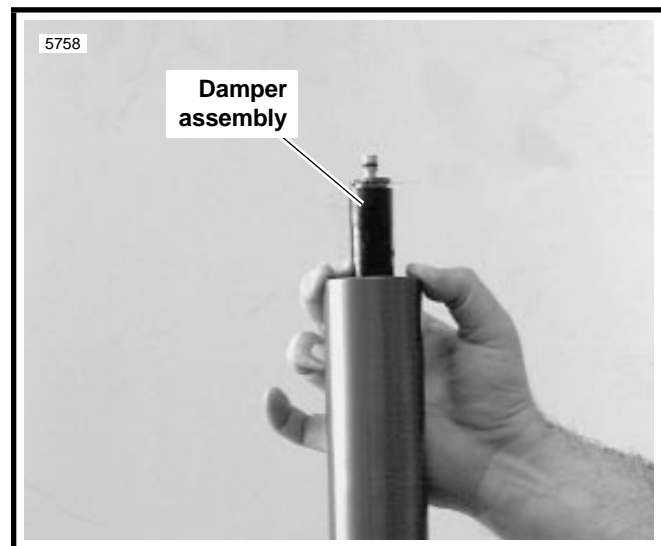

Figure 1-35. Bleeding Fork
4. See Figure 1-35. Grasp damper assembly by the adjuster. Pull damper assembly through several full strokes to bleed air from the fork.